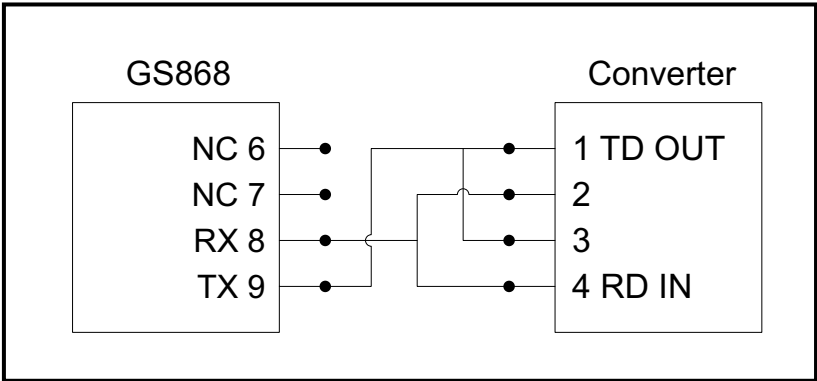

Figure 4: Typical RS485 Connections
3. Feed one end of the cable through the conduit hole, wire it to terminal block J1 and secure the cable clamp. Connect the other end of the cable to the converter, as shown in *Figure 4* below.